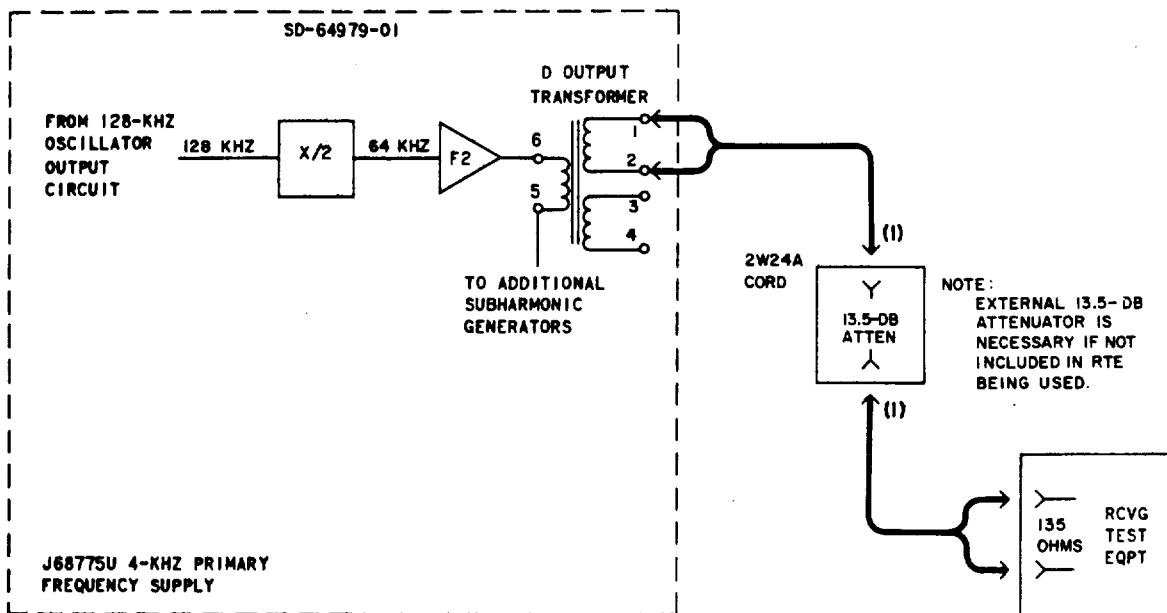

Fig. 2—Measurement of 64-kHz Output Power
7	<p>Connect the RTE through a suitable attenuator, if required, to terminals 1 and 2 of transformer D [patch (1), Fig. 2].</p>
| 13 | Remove patch (1), Fig. 2. |